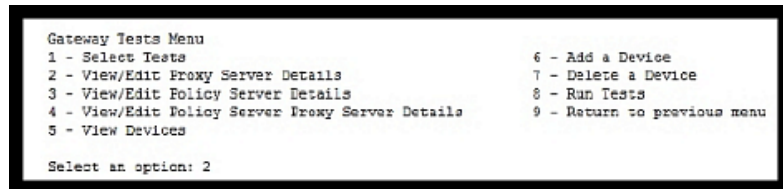

Figure 181 Gateway Tests Menu - Running Tests
7. Return to the Gateway Tests Menu, as shown in Figure 181 on page 144, and select option 8 to run the tests you selected.